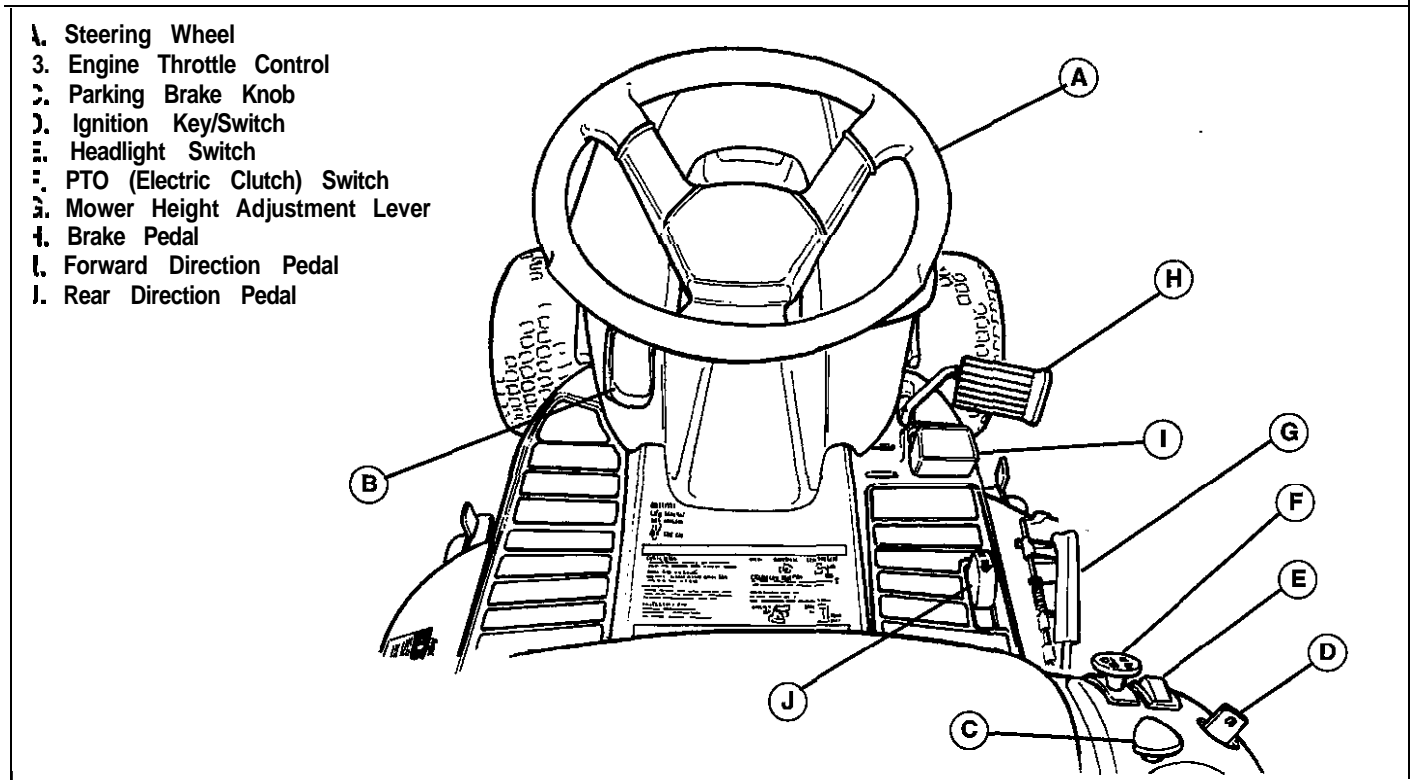
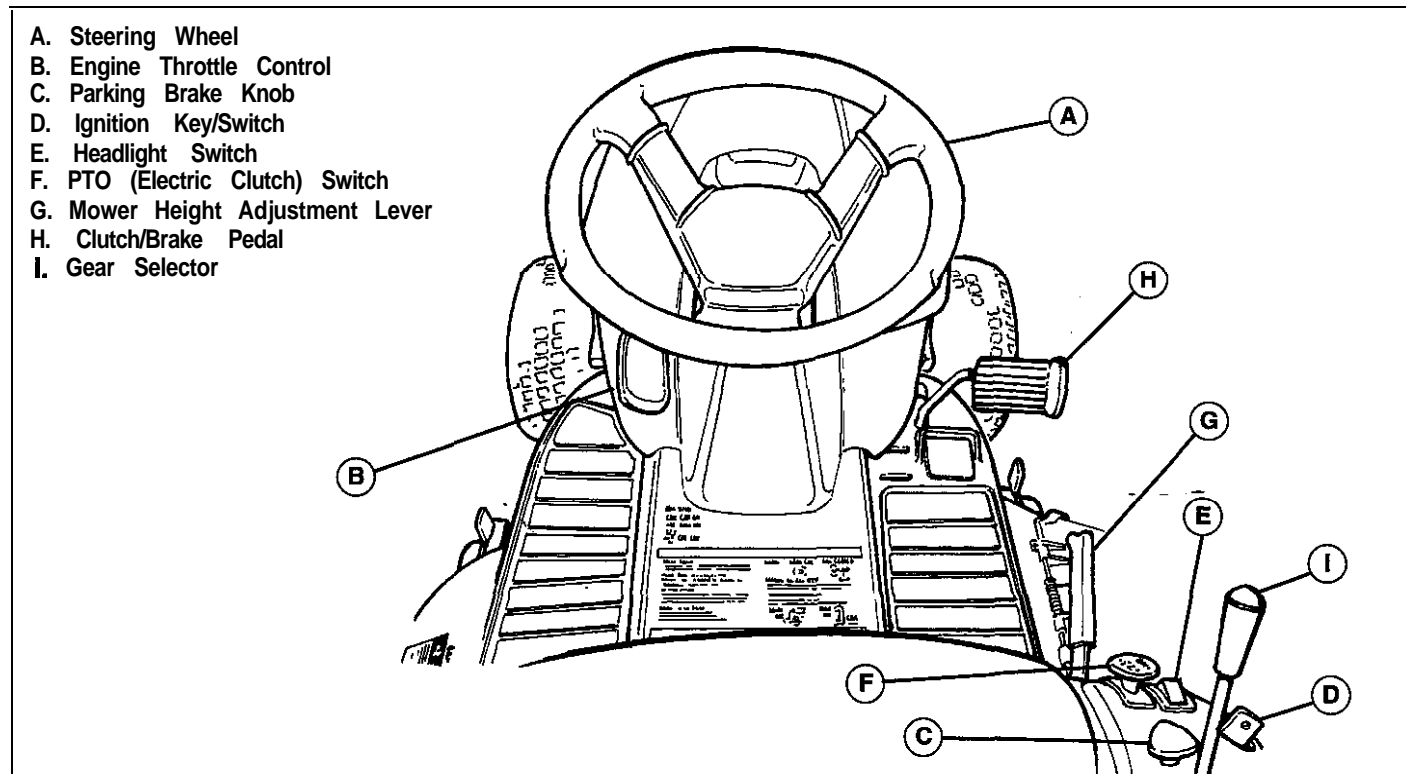
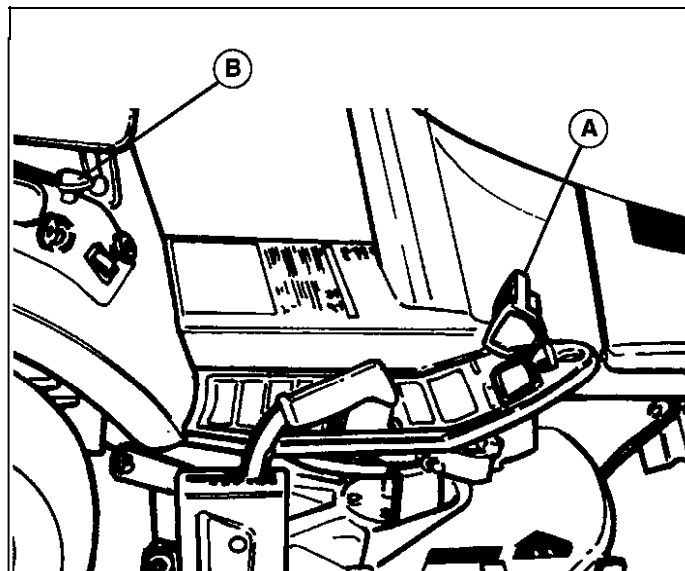

Figure 2. Tractor & Mower Controls - Hydro Model
Figure 3. Tractor & Mower Controls - Gear Model
Figure 8. Clutch/Brake Pedal Operation
NOTE: Once the engine has stopped, the PTO switch (F, figures 2 & 3) must be turned off after operator returns to the seat in order to start the engine.
On gear model, depressing the pedal (A, figure 8) halfway disengages the transmission drive. Depressing pedal further applies the tractor brake.
Parking brake can be applied by fully depressing the brake pedal (A, figures 8), then pulling up on the parking brake knob (B, figure 8).
2. Set engine throttle control (B, figures 2 & 3) all the way up to CHOKE. A warm engine may not require choking.
3. Disengage the PTO by pushing the switch all the way down (F, figures 2 & 3)
4. **On hydro models**, with your foot off the pedals (I & J, figure 2) the tractor is in the neutral position.
On gear models, put the gear selector (I, figure 3) in neutral.
5. Insert the key into the ignition switch (D, figure 2 & 3) and turn it to START.
6. Move the engine throttle control (B, figures 2 & 3) to SLOW. Warm up the engine by running it for at least a minute before engaging the PTO switch or driving the tractor
On hydro model, ground speed is infinitely variable according to how far the pedals (I & J, figure 2) are moved in the forward or reverse position.
On gear model, ground speed is selected by fully depressing the clutch/brake pedal, then moving the gear selector (I, figure 3) to the appropriate position. Most mowing is done in 3rd or 4th gear with engine speed between $\frac{3}{4}$ and full speed. If the terrain is rough, hilly or sloping, use first or second gear. If the grass is wet or over three inches (76mm) high, use full engine speed (with low gear) so the mower will have enough power to cut the grass. Shift gears **only with** Tractor stopped and clutch/brake pedal fully depressed.
2. Set engine throttle control (B, figures 2 & 3) for desired speed. Between $\frac{3}{4}$ and full speed is recommended for mowing.
3. Engage the mower PTO by pulling up on the switch (F, figures 2 & 3).
4. **On hydro model**, release the parking brake by depressing the brake pedal (A, figure 8), then press down on either pedal (I or J, figure 2) for the desired direction and speed of travel.
On gear model, fully depress clutch/brake pedal (A, figure 8) to release the parking brake and disengage the clutch. Use the gear selector (I, figure 3) to select the gear best suited for conditions, then slowly release clutch/brake pedal to engage clutch and start tractor in motion.
1. **On hydro model**, gradually take your foot off the pedals (I & J, figure 2) to make a smooth stop. To make a more rapid stop, depress the brake pedal (H, figure 2).
On gear model, press the clutch/brake pedal (A, figure 8) down only far enough to disengage the clutch to make a gradual stop. For a more rapid stop, press pedal down fully to apply the brake.
2. Engage the parking brake by pulling up on the knob (B, figure 8) with the brake pedal fully depressed.